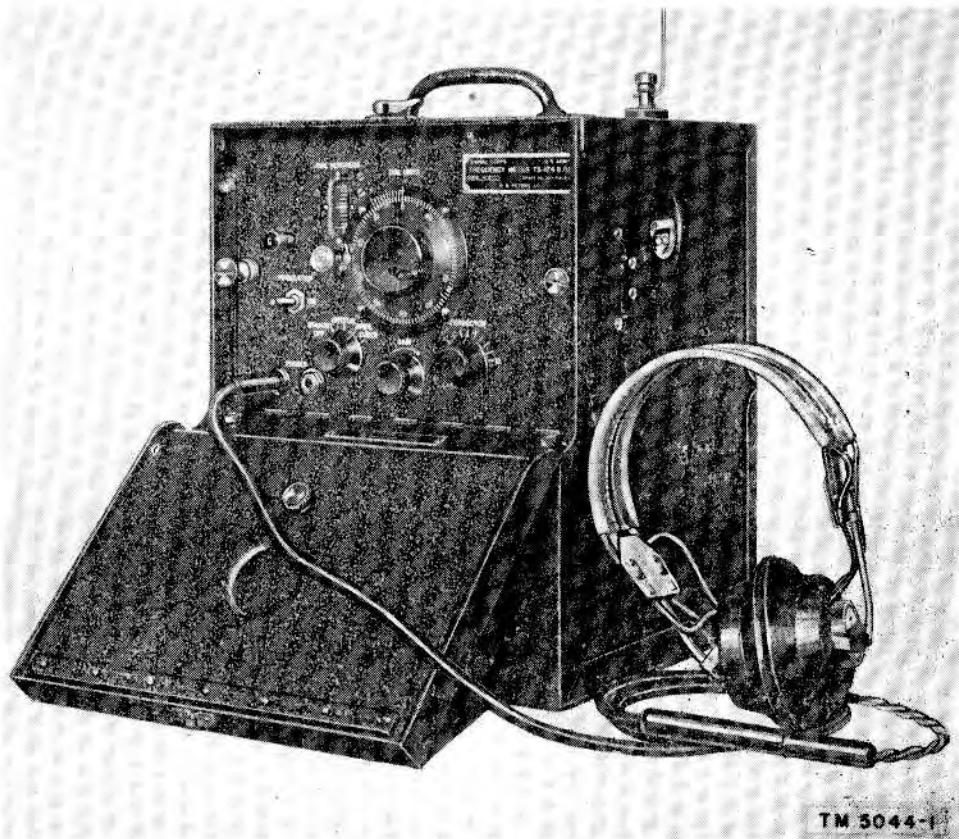

Figure 1. Frequency Meter TS-174B/U in operation.
This technical manual contains instructions for the installation, operation, theory, maintenance, and repair of Frequency Meter TS-174B/U (fig. 1). In addition to these instructions, there are two appendixes covering a list of references and an identification table of parts.
a. Frequency Meter TS-174B/U (fig. 1) is a precision instrument designed to measure or radiate r-f (radio-frequency) energy between 20 and 250 mc (megacycles). It is a portable, self-contained instrument used mainly to calibrate field radio receivers and transmitters by direct comparison with the calibrated vfo (variable-frequency oscillator) of the frequency meter. The frequency meter contains a 1,000-kc (kilocycle) crystal-controlled oscillator circuit which is used in calibrating the instrument at a number of frequencies. These points of frequency calibration are called *crystal check points*.